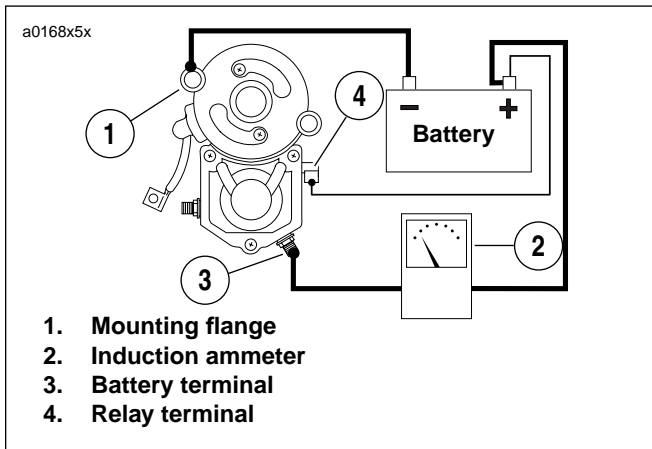

Figure 5-12. Free Running Current Draw Test
- See Figure 5-12. Attach one heavy jumper cable (6 gauge minimum).
- To the starter mounting flange (1).
- To an inductive ammeter (2). Continue on to the battery terminal (3) on the starter solenoid.
- To the solenoid relay terminal (4).